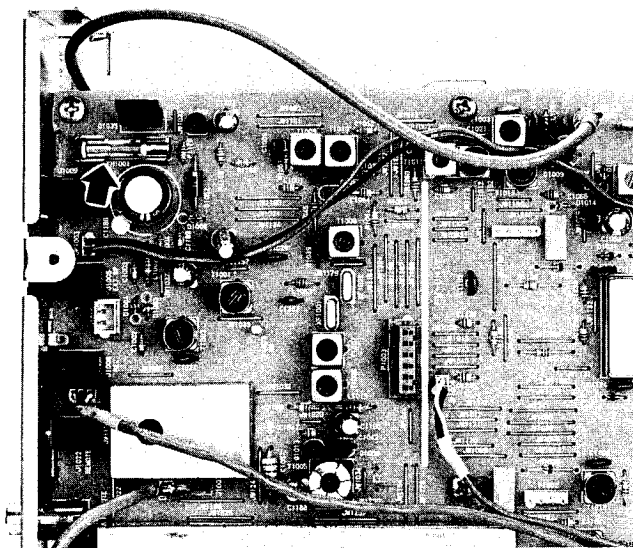

Fig. 6 Fuse Replacement
- Locate fuse **FH1001** at the upper right corner of the PCB, next to the **DC 12 V IN** jack (see Fig. 6).